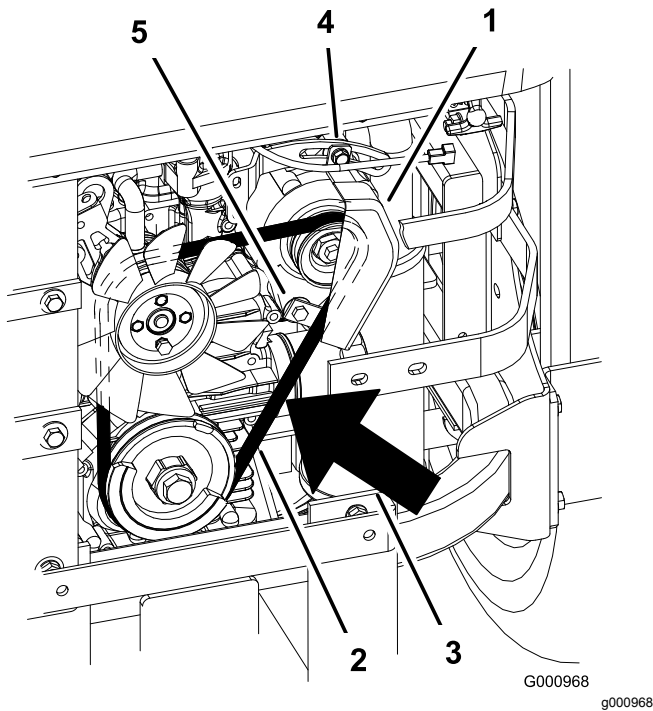

Figure 65
2. Adjust the alternator to the outside until there is 7 to 9 mm (1/4 to 11/32 inch) deflection in the belt between the engine and the alternator pulleys with 10 kgf (22.1 lb of force) (Figure 65).
5. If the deflection is correct, tighten the bottom and upper bolt (Figure 65).